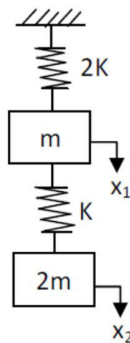

Fig. 3
- h) Find the fundamental frequency of vibration of the system as shown in the Fig. 3 given below. Take $K=1$ N/m and $m=4$ kg.